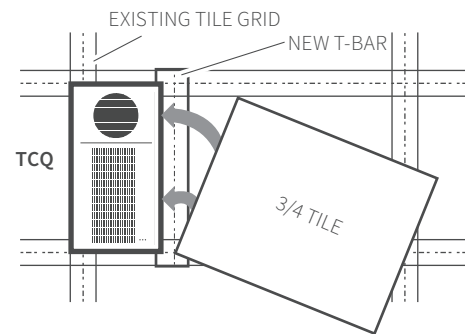

FIGURE 3:
4. Locate the 2' ceiling grid T-bar provided. Locate the attachment slots in the existing ceiling grid and snap the new T-bar into place to create two openings to create a 1' x 2' and a 2' x 3' opening (Figure 3) or two 1' x 2' openings (Figure 5).